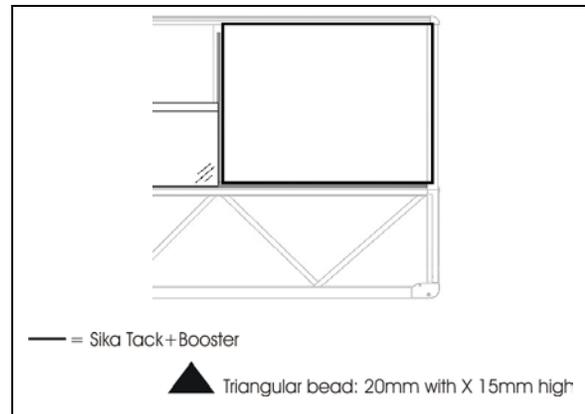
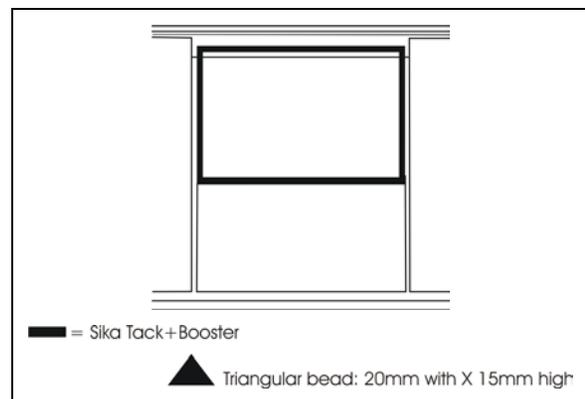
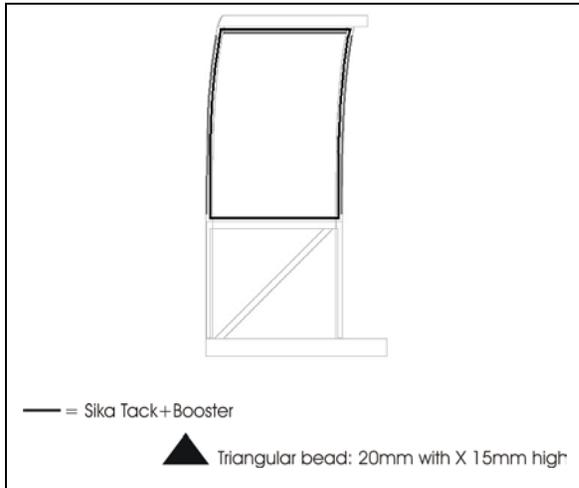

FIGURE 56: FACE FIXED WINDOW INSTALLATION – SIKA TACK+BOOSTER
FIGURE 57: FACE FIXED HALF-WINDOW INSTALLATION – SIKA TACK+BOOSTER
FIGURE 58: SIDE FIXED WINDOW - SIKA TACK + BOOSTER
6. Apply Sika Tack+Booster as per FIGURE 56, FIGURE 57 or FIGURE 58 (triangular bead: 20mm width X 15mm high).